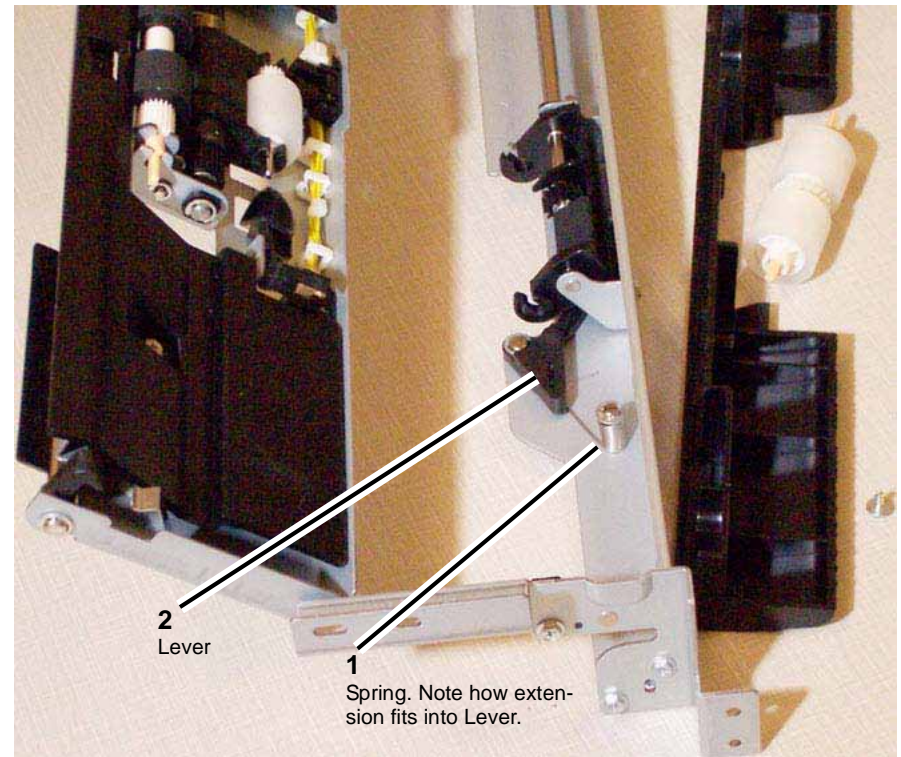

Figure 1 Removing the Retard Lever Spring
- Remove the (4) securing screws.
6. Remove the Spring. Figure 1